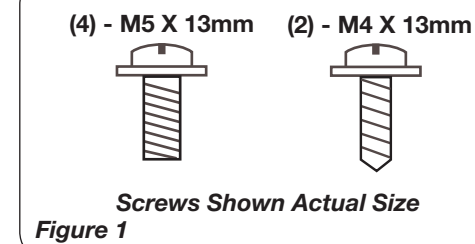

Figure 1
### ASSEMBLY (Figures 1 through 5)
3. When the Heater is initially plugged in, there will be a "beep" and the **Power Light** will come on indicating that there is power to the unit. The **Power Light** will remain lit until the Heater is unplugged from the electrical outlet. (Figure 1)
6. Upon turning the Heater on, the unit will be in HIGH heat (⏻) (1500 Watts) and will display the current room temperature. (Figure 1)